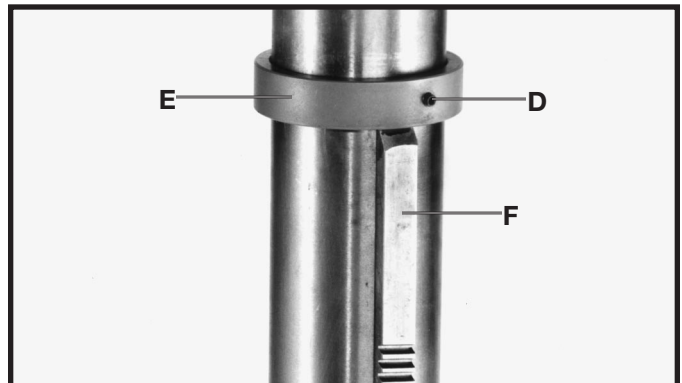

Fig. 9
5. Re-assemble ring (E) Fig. 9, which was removed in **STEP 1. IMPORTANT:** Bottom of ring (E) **MUST NOT** be pushed all the way down onto top of raising rack (F). **MAKE SURE** top of raising rack (F) is under bottom of ring (E) and that there is enough clearance to allow rack (F) to rotate around the column. **THEN TIGHTEN SET SCREW (D) WITH 3mm WRENCH SUPPLIED.**